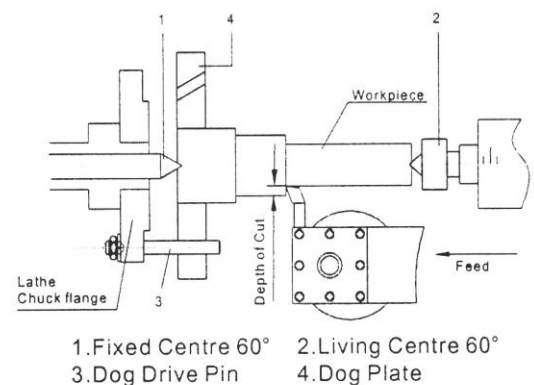

Fig.13
14.9 Turning between centers (Fig.13)